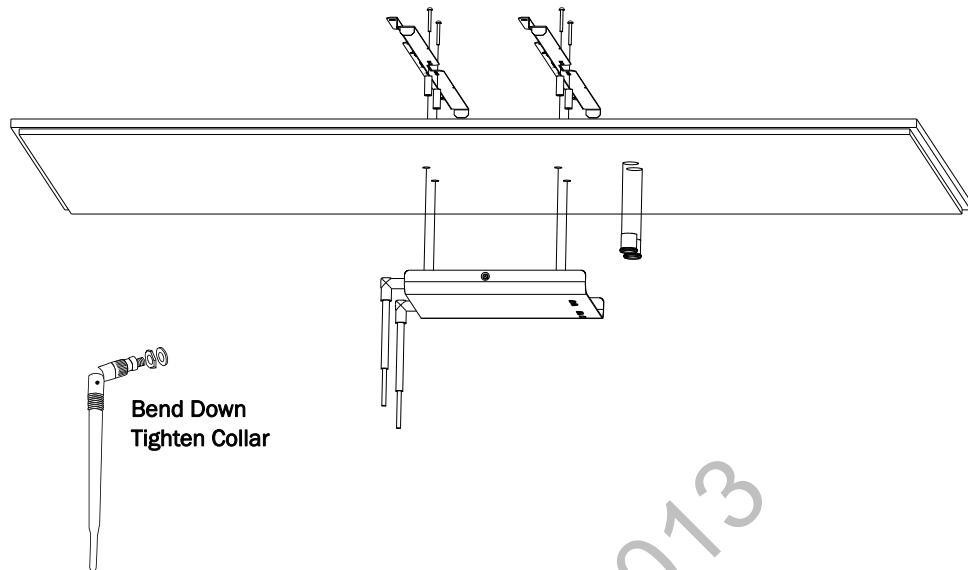

Figure 2-10: Mounting the Core AP Below a Ceiling Tile (Fixed Mount)
7. Insert the four (4) M3.5 X 30 lobe screws into the Core AP mounting rail holes, through the provided plastic spacers, through the tile, and into the mating holes in the back of the Core AP as shown in Figure 2-10. Torque-tighten each screw to 8-inch lbs.